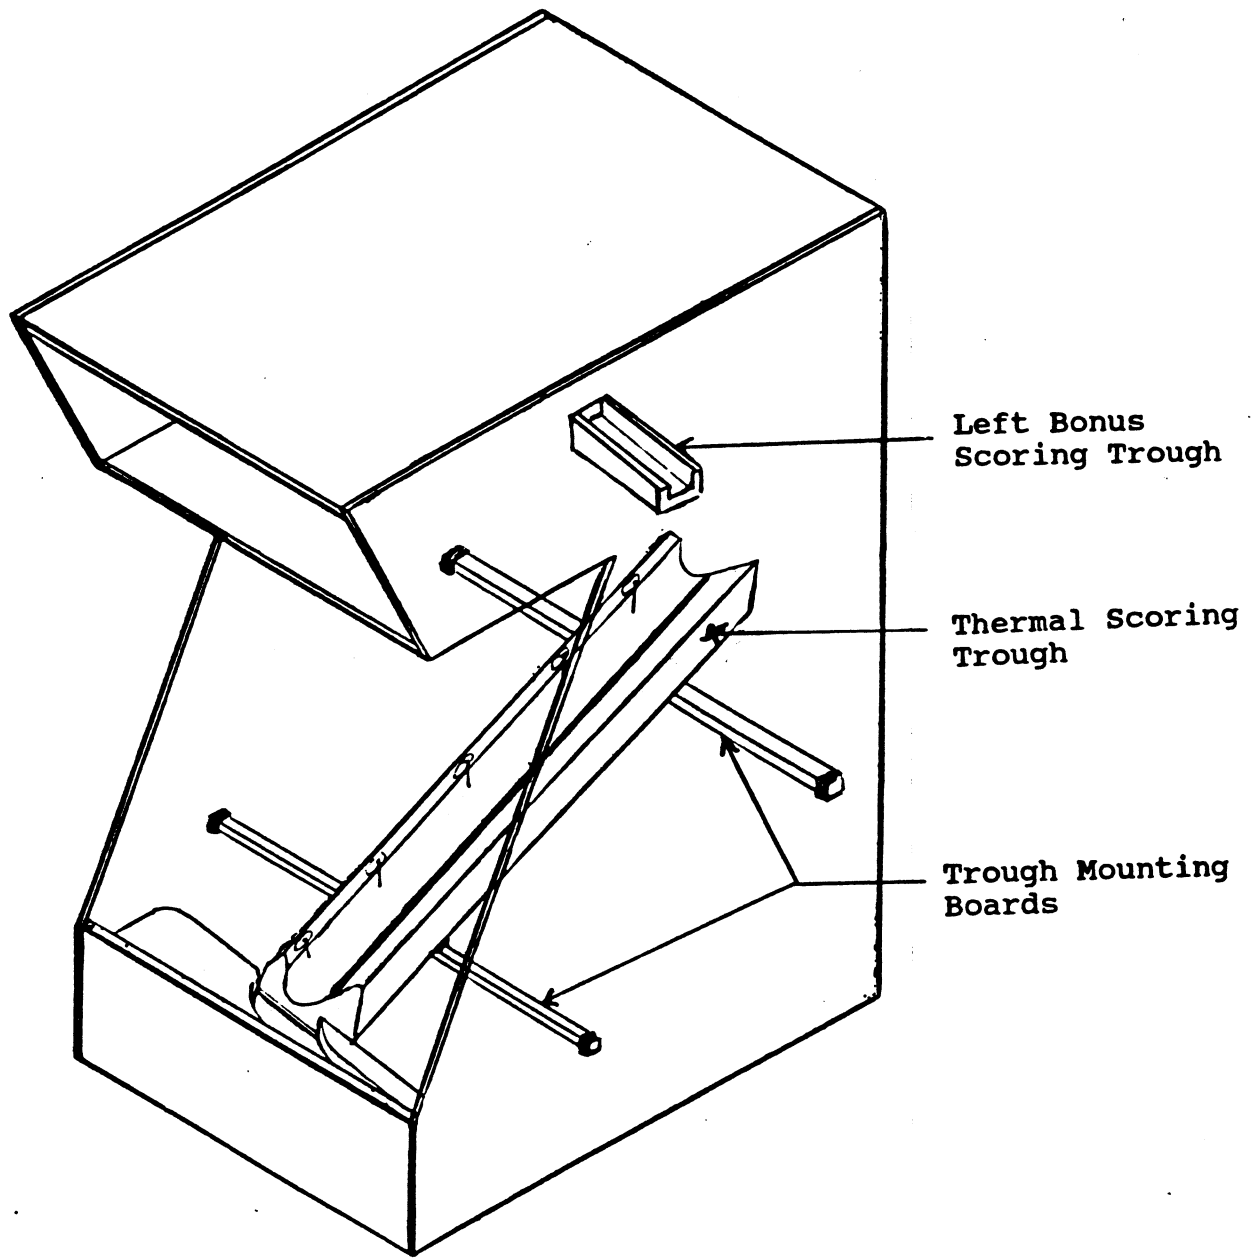

Figure 1
- 3) Pull the Thermal Scoring Trough out of the game. (Figure 1)
NOTE: If the game has the BONUS OPTION, part of the Left Bonus Scoring Trough must be trimmed off to allow the Thermal Scoring Trough space for movement to the left. Measure 2" in from the center on the front side of the Left Bonus Scoring Trough. Trim off the wood piece from the trough at a 45 degree angle toward the center/rear of the Scoring Cabinet. (Figure 1 and Figure 3)